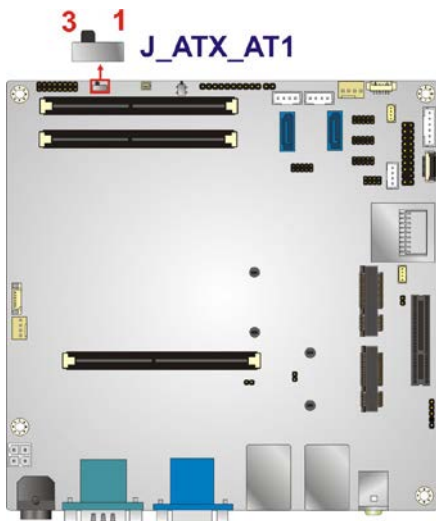

Figure 3-2: AT/ATX Mode Select Switch Location
- CN Location:** See **Figure 3-2**
The location of the AT/ATX mode select switch is shown in **Figure 3-2** below.